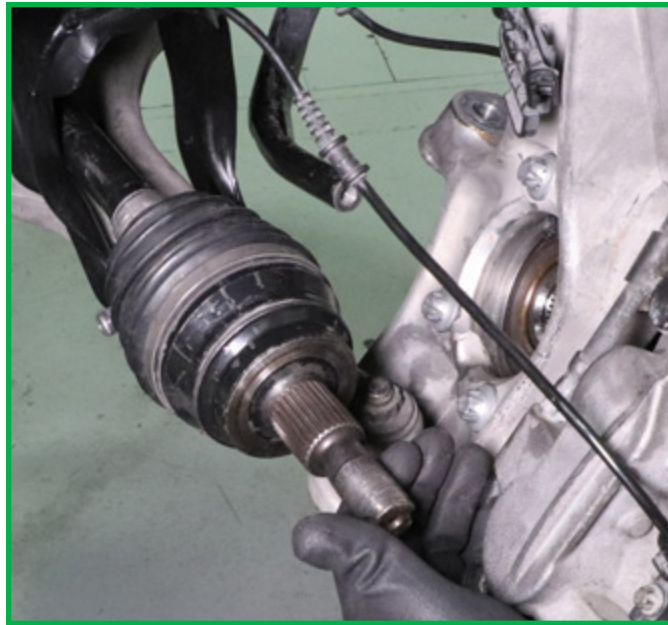

FIGURE 26
4. Reinstall axle into front wheel bearing. (Figure 26)